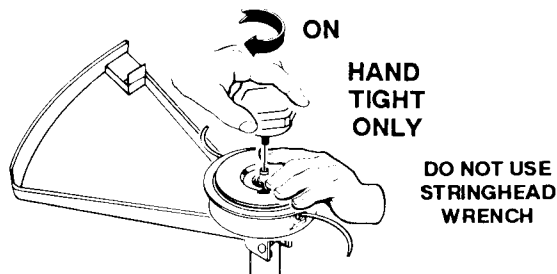

Figure 8-3B
5. Compress the spool into the housing and thread the knob into the assembly. Tighten the knob **CLOCKWISE, BY HAND ONLY**. (Figure 8-3B)